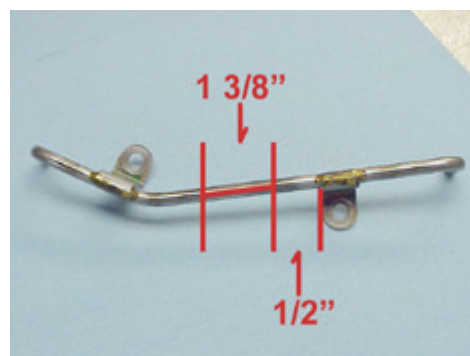

Figure 7: Tube modification
- 10) You will need to modify the original stainless steel tube that was earlier removed from the valve body. Measure the stainless steel tube 1/2-inch from the bracket and cut using a tubing cutter (Figure 7).